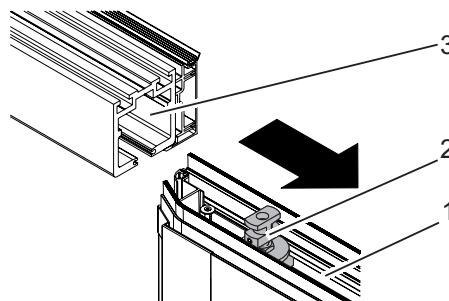

Fig. 45: Removing the fixed panel
2. Lift the fixed panel (Fig. 45/1) with the fixed panel holders (Fig. 45/2) evenly from the track at the resultant gap (Fig. 45/3) and the bottom rail.